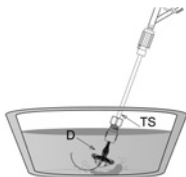

Fig. 09
- Pull the pusher (P), until the device (D) is completely inside the transportation sheath (TS) (Fig. 09).